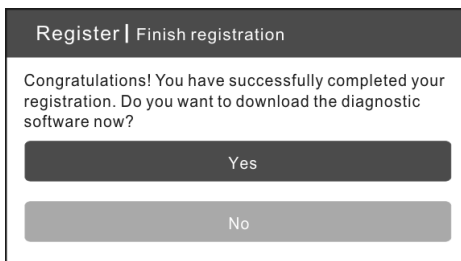

Fig. 4-6
- C. Download diagnostic software: Tap “Activate”, a dialog box similar to Fig. 4-6 will appear: